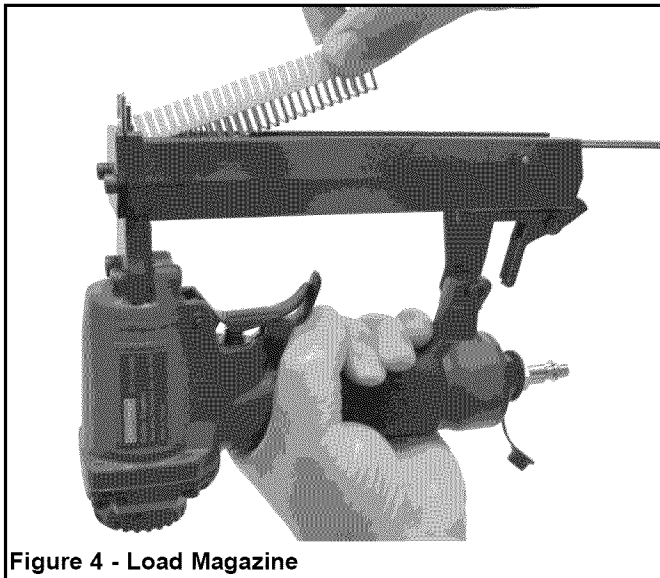

Figure 4 - Load Magazine
- Insert fasteners into magazine oriented as shown in Figure 4.